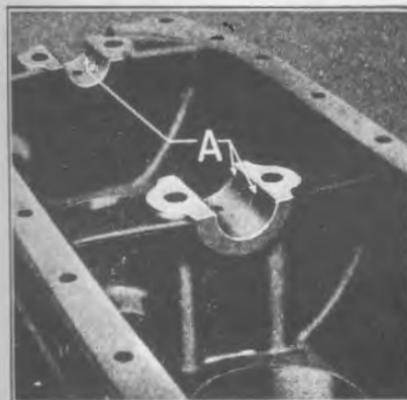

Fig. 148
- 224 In rebabbitting a cylinder block and running-in the crankshaft, the first operation is to remove the old babbitt. This is done by cutting out a strip of the babbitt at the bottom of the bearing. A chisel is used for this purpose (See "A" Fig. 147), the two remaining pieces of babbitt can then be driven out with the chisel as shown at "B". If any babbitt remains in anchor holes (See "A" Fig. 148), after the old bearings have been removed, it should be drilled out.